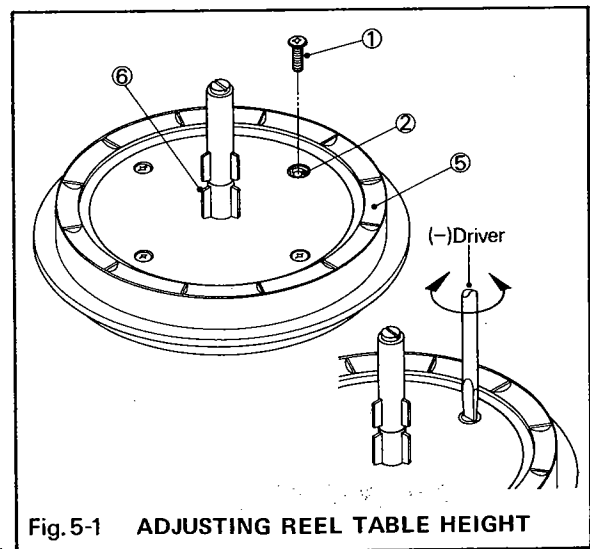

Fig. 5-1 ADJUSTING REEL TABLE HEIGHT
1. Mount the Scotch Test Tape #212 on the LEFT REEL TABLE (2) and the empty reel on the RIGHT REEL TABLE (32), fasten the clamps and thread the tape.
2. Depress the PLAY BUTTON (46).
4. If the tape scrapes the flange of either or both of the reels, depress the STOP BUTTON (45), loosen the clamps of the LEFT and RIGHT REEL TABLES and remove both reels. Then remove the LOCKING SCREW (indicated ① in Figure 5-1) of the REEL TABLE in question with a cross-headed screwdriver.
5. With the LOCKING SCREW removed, you will see the minus head of the PINION GEAR-COUPLED SCREW ②. (Since the SCREW is made of fragile material, be sure to use the screwdriver that best fits the screw-head.) If the tape has scraped the upper flange of the reel, the REEL TABLE height must be raised. Holding the CLAMP FIN ⑥, turn the PINION GEAR-COUPLED SCREW counterclockwise. On the contrary, if the tape has scraped the lower flange of the reel, the REEL TABLE height must be lowered. Turn the PINION GEAR-COUPLED SCREW clockwise. (For further details, refer to the section "CONSTRUCTION AND ADJUSTMENT OF THE REEL TABLES.")